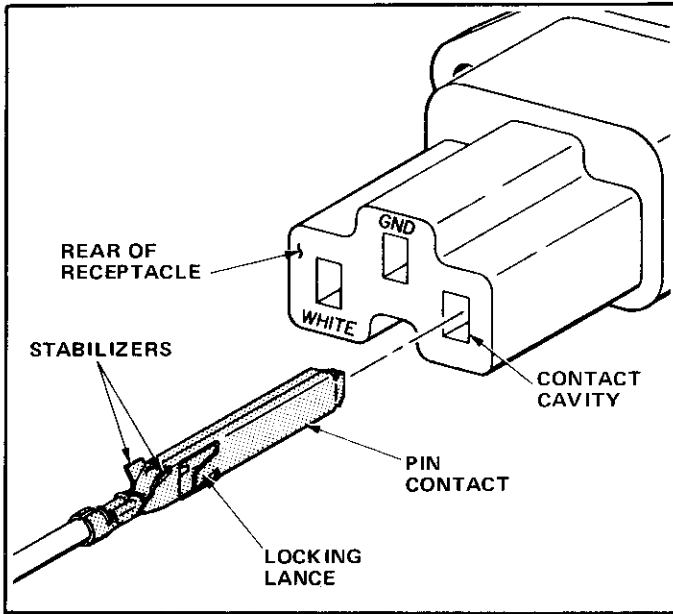

FIGURE 2
1. Align contact with REAR of contact cavity. Note that contact can be oriented as shown in Figure 2, or rotated 180 degrees with stabilizers turned downward.